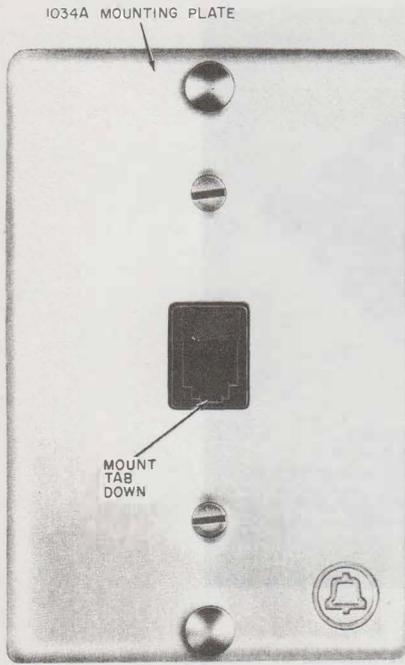
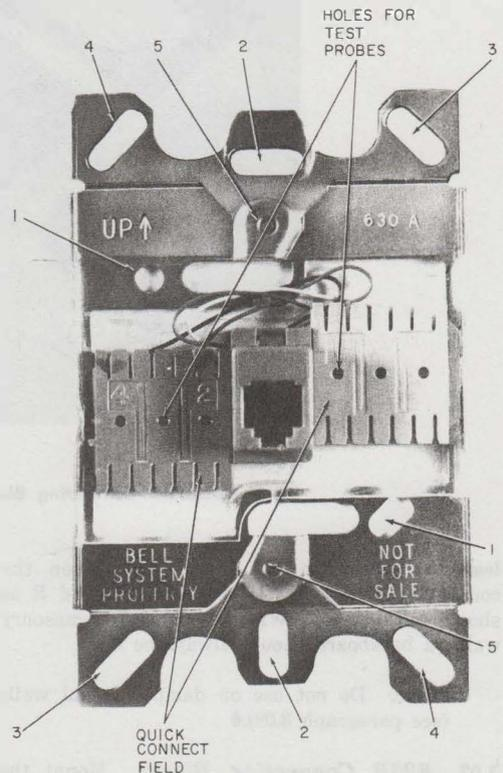

Fig. 7—630A4 Connecting Block (With Mounting Plate)
Fig. 8—630A4 Connecting Block (Current Model Without Mounting Plate)
- Block, Connecting, 630A4 (Fig. 7, 8, and 9)
2.11 The **630A4** connecting block (Fig. 7) is a plug-in wall set mounting and will also accept a modular type mounting cord. It consists of a connecting block (Fig. 8) and 1034A mounting plate. Two 3/16-inch 800413577 (P-41357) cover mounting screws, two 5/16-inch 840705008, and two 1-1/8 inch 841065529 flathead machine screws are included in a fastener package. The 630A4 connecting block is now available as a replacement for the 630A6 and should be ordered accordingly.
3.11 **630A4 Connecting Block:** This block (Fig. 7) may be flush mounted on a 63-type bracket or electrical type outlet box or surface mounted on a wall. In all cases, the block should
4.01 The 630A4 may be used with exposed or concealed station wire. Each quick-connect terminal (total of four) provides three station wire terminations per lead. One termination is required for the jack conductor. An access for a test point is also provided (Fig. 8).
lie flat against the wall with connector springs oriented to the top and tab to the bottom (Fig. 7).
(a) A fastener package is provided with the 630A4 connecting block consisting of two 3/16-inch 800413577 (P-41357) cover mounting screws, two 5/16-inch 840705008, and two 1-1/8 inch 841065529 flathead machine screws. Depending on mounting arrangement, select proper fasteners from Table B and mount connecting block using holes designated in Fig. 8. The connecting block should be straight before tightening screws.
(4) Attach mounting plate (Fig. 7) using the two 3/16-inch 800413577 (P-41357) cover mounting screws or two 5/16-inch 840705008 flathead machine screws from the fastener package.
(5) Remove the protective mylar cover from the stainless steel plate.
(6) Check for continuity on each lead by inserting 934A tool or 523A4 plug and connecting test set.